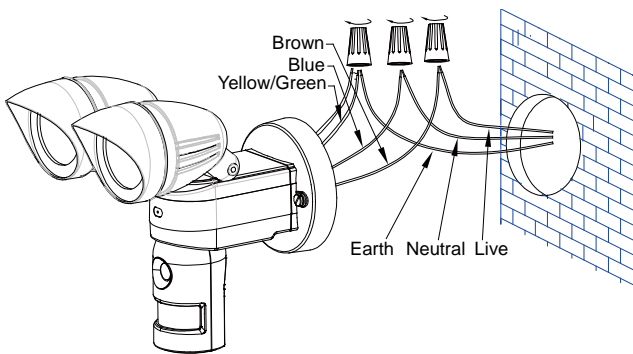

FIGURE 37
- (3) Place the gasket in position before wiring
- (4) Connect the **brown** wire from the fixture to the **brown** (Live) power supply wire from your power source using the wire nuts provided. Connect the **blue** wire from the fixture to the **blue** (Neutral) power supply wire using the wire nuts provided. Connect the **yellow/green** wire from the fixture to the **yellow/green** (Earth) power supply wire using the wire nuts provided (FIGURE 37).